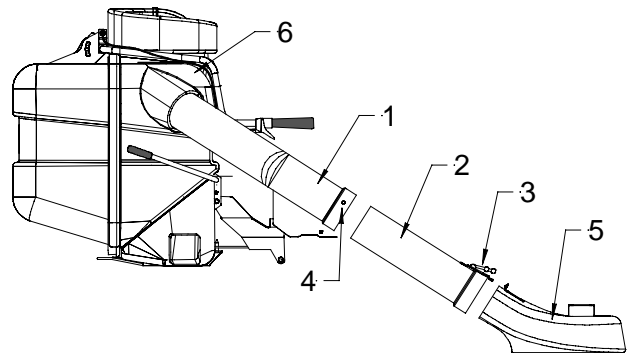

Figure 9
1. Slide the elbow tube in the collector (fig. 9).
2. Install the straight tube on the boot and secure in place with the rubber latch (fig. 9).
3. Insert the elbow tube onto the straight tube. Be sure both tubes are aligned (fig. 9).
4. Use the holes already drilled in the elbow tube as templates to drill same size holes through the straight tube (fig. 9).
5. Remove both tubes in order to be able to insert your hand in the tube to install the carriage bolts $1/4 \times 3/4"$ (19mm.), head on the inside. Secure in place with flange nuts (fig. 9).